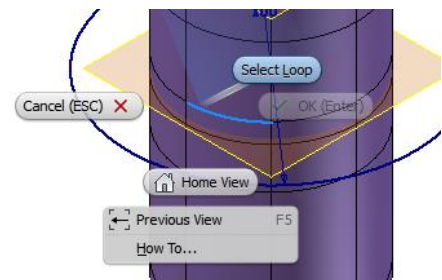

Figure 10 – Selecting a loop
- Select an edge, then right click and select “Select Loop” on the marking menu (see Figure 10).